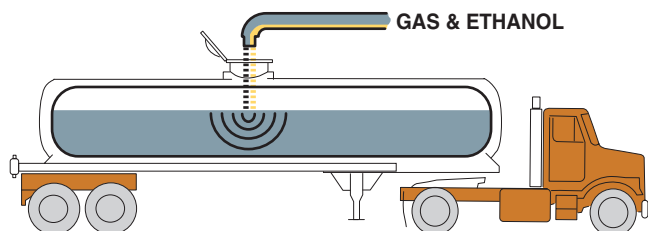

FIGURE 5-12 In-line blending is the most accurate method for blending ethanol with gasoline because computers are used to calculate the correct ratio.
1. **In-line blending.** Gasoline and ethanol are mixed in a storage tank or in the tank of a transport truck while it is being filled. Because the quantities of each can be accurately measured, this method is most likely to produce a well-mixed blend of ethanol and gasoline. ● **SEE FIGURE 5-12.**